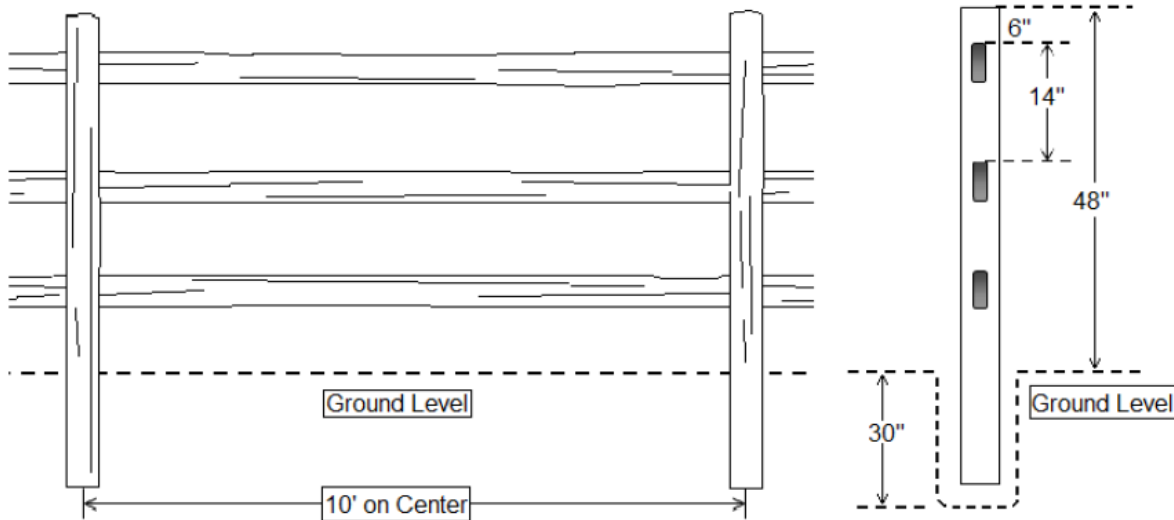

FIGURE 1 - 3-rail Split Rail Fence Detail.
- A. Typical split rail fence installation can be found in Figure 1 and 2 at the end of this specification section.